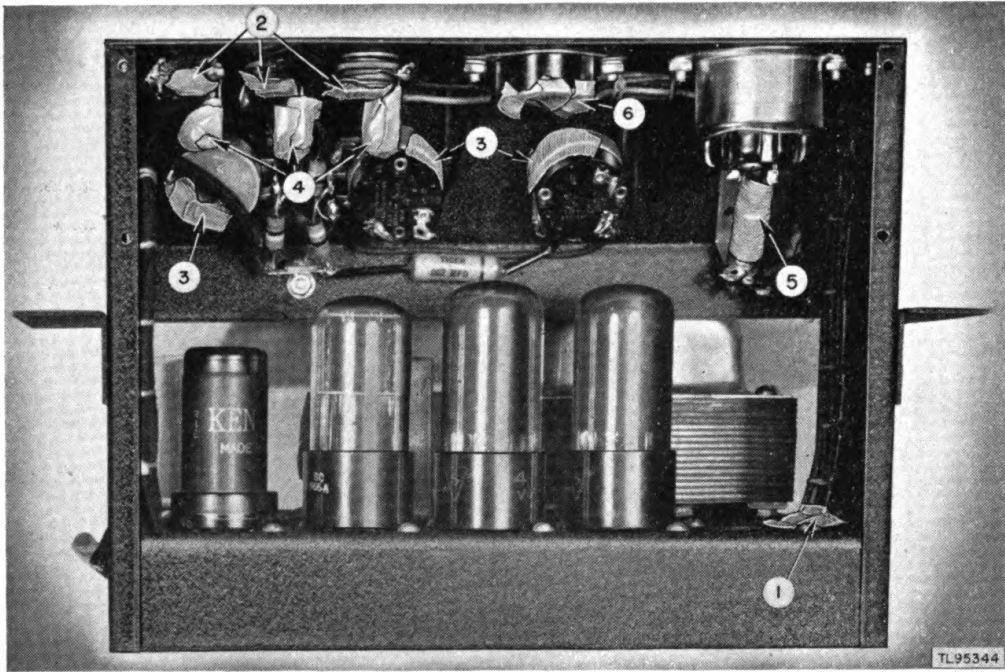

Figure 11. Reproducer amplifier chassis, rear view, rectifier tube removed, masking details.
- (10) Mask the 2-prong female receptable on the top of the control panel (fig. 10 (5) and fig. 11 (6)).
- (14) Mask the breather holes of the three potentiometers (fig. 11 (3)).
- (15) Thoroughly mask the three jacks (SPKR jack, PICKUP jack, and MIC jack) (fig. 11 (4)).
- (16) Mask the pilot lamp and pilot light socket (fig. 11 (5)).